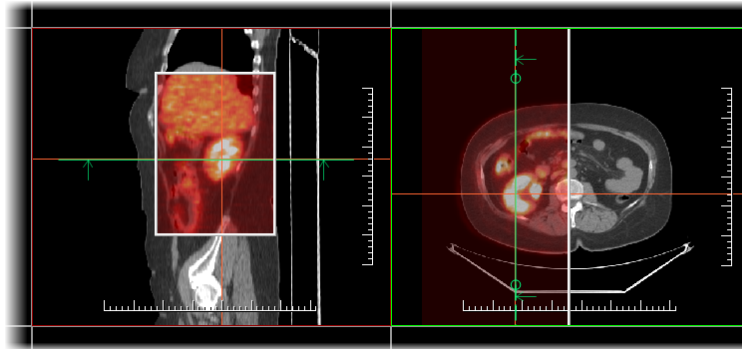

Figure 313 – Fusion images between CT and PET series
- Vertical** - the view is divided with a vertical line; the image from the fusion series is displayed on the right (see Figure 313, right).
- Rectangle** - the image from the overlaying series is displayed inside the rectangle (see Figure 313, left).